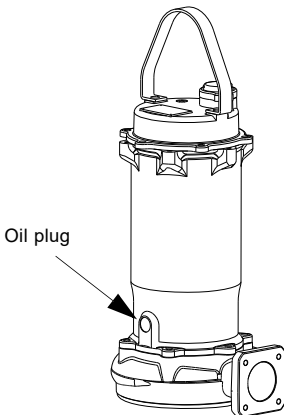

Fig. 14 Position of oil plug
1. Loosen the oil plug. See fig. 14.